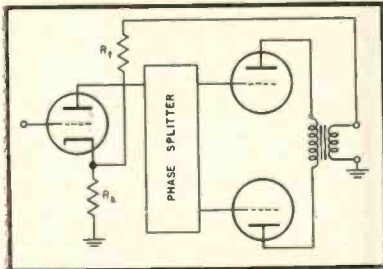

Fig. 12—9. Common circuit providing feedback over output stage, phase splitter, and preceding voltage amplifier. β is equal to $R_k / (R_k + R_f)$.
speaker. The basic design of this circuit appears in Fig. 12—5. Although at first glance the stage may seem quite different from a push-pull arrangement, an analysis of the flow of signal currents will indicate that the signals from each out-of-phase half of the circuit combine in-phase in the load. As in the case of the conventional push-pull circuit, the two signals are out of phase from the point of view of direction of flow from each tube, but in phase from the point of view of the load.
The a.c. loads for each tube in the conventional push-pull circuit are in series. In Fig. 12—5 the single, untapped load impedance is equivalent to two separate loads in parallel. The operational results are: 1) Distortion that occurs at high-power operation (class AB) due to imperfect coupling between the two halves of the transformer primary is eliminated. 2) The required value of load impedance is half of, rather than double the single-tube value, due to the parallel load connection. This brings the optimum load value down to a reasonable figure for high-impedance speaker voice coils (for example, the two triodes of the 6AS7-G require a load of only 280 ohms with this circuit). 3) Direct current is kept from the speaker voice coil without an output transformer, or, if an output transformer is used for matching purposes, its characteristics are not as critical. The need for transformer design that provides very close coupling between the two primary halves is eliminated by the equivalent of perfect coupling, and the effects of d.c. in the primary winding do not have to be considered. The untapped load is also a convenient feature for direct coupling to the speaker.
The primary of the output transformer constitutes a load which is placed in series with a source of electrical power (the B supply) and a variable resistance (the tube). Other factors being equal, it makes no difference in what order the elements of this series circuit appear. In Fig. 12—6, (A) and (B) compare a plate-loaded circuit and a cathode-loaded circuit, both of which have grid circuits that operate independently of cathode current. These two stages will have the same operating characteristics and will require the same value of load impedance.
The circuit of Fig. 12—7 is different in that the cathode load is common to both the grid and plate circuits. All of the output voltage reappears, out of phase, at the input, since it is applied between the cathode and grid return. This results in a voltage loss rather than gain, referred to as a "gain" of less than one, although power gain is still possible. Such a circuit is called a *cathode follower*, because the voltage from cathode to ground follows the grid voltage exactly and in phase.
*Negative, inverse, or degenerative feedback*⁵ refers to a system in which a fraction of the amplifier output signal is fed back to the input terminals out-of-phase. This reduces the gain of the amplifier, but in effect pre-compensates the input signal characteristics for the distortion that will be encountered in Fig. 12—8 (A), illustrates the amplification of a stage without feedback, in which the generated distortion is indicated by the notch in the output sine wave. In (B), part of this distorted signal is fed back to the input and mixed with the undistorted input signal, creating a new input signal of reduced amplitude, but with an anticipatory hump where the notch is to be introduced. The result is to partially cancel the notch that would normally have been present in the output. If the input signal is now increased, as in (C), the output signal is restored to its original amplitude, but at the lower percentage of distortion.